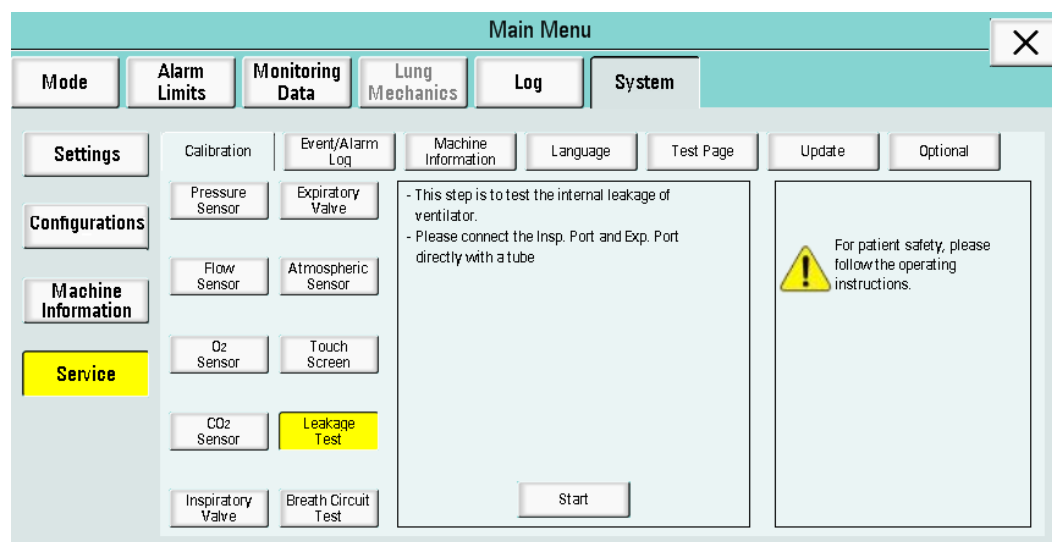

Figure 6-72
(9) Leakage Test Calibration: Click “Leakage Test” to enter the test interface. A message is displayed: “This step is to test the internal leakage of ventilator. Please connect the Insp. Port and Exp. Port directly with a tube”, as shown in Figure 6-72.